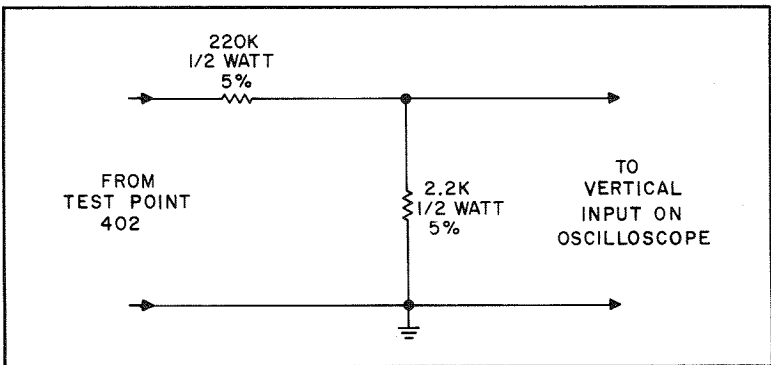
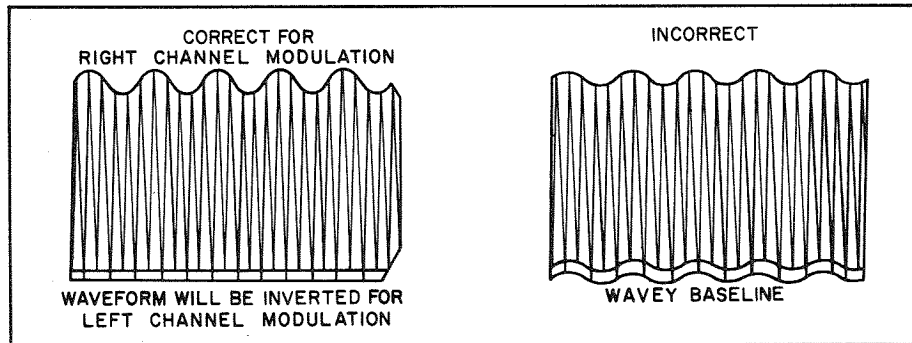

Figure 2. Voltage Divider Probe.
Figure 3. Waveform At Test Point 402.
- (9) Run the dial cord through the slot in the rim of the drive drum and set in the underside of groove 1 (see side view).
- (10) Pull dial cord taut and wrap $1\frac{1}{2}$ turns around the fly-wheel shaft.
- (11) Rotate the drive drum to its maximum clockwise position, allowing the dial cord to follow the grooves in the drum (Figure 2). Keep the dial cord taut during this procedure.
- (12) Guide the dial cord over the top of the drive drum and place it in groove 3 (see top view).
- (13) Run the dial cord through the slot in the drive drum and bring it under and around the beveled washer. Pull the dial cord taut until the spring stretches open. Tighten the machine screw to hold the dial cord under the washer.
- (14) Rotate the drive drum to its maximum counterclockwise position (Figure 3).
- (15) Run the loose end of the dial cord out through the slot in the drive drum and place it in groove 3 (see side view). Guide the dial cord around pulleys A and B.
(3) Adjust generator output voltage and frequency to observe IF response curve. Use as low a generator output as possible.
(4) Turn top core of Z302 on IF amplifier board fully out.
(5) Align top and bottom cores of Z303, bottom core of Z302, and top and bottom cores of Z301 on IF amplifier board, and core of L505 on front end for maximum gain and symmetry (see Figure 3). Repeat alignment until maximum gain and symmetry are obtained.
(6) Align top core of Z302 on IF amplifier board for maximum gain and symmetry (see Figure 2). Realign slightly top and bottom cores of Z302 for maximum gain and symmetry.
(7) Connect DC VTVM, set to 1.5-volt range, through a 100K to Test Point 302. Set generator to 10.7 MHz (Mc) with no sweep.
(8) Align top core of Z304 on IF amplifier board for reading on DC VTVM of 0 ± 0.2 VDC.
(9) Connect scope to LEFT or RIGHT CHANNEL RCDR HIGH jack. Set generator for sweep.
(1) Connect 455-kHz (kc) sweep generator to pin 5J on the AM RF board. Connect scope's vertical input through 1K ohm resistor to Test Point 603 on the 455-kHz (kc) IF amplifier board. Connect a 0.005- μ F capacitor between the scope input and pin 6H on IF board.
(2) Adjust generator output voltage and frequency to observe IF response curve. Use as low a generator output as possible.
(3) Align top and bottom cores of Z601 and Z602 on 455-kHz (kc) IF amplifier board and top and bottom cores of Z503 of AM RF board for maximum gain and symmetry (similar to Figure 3).
(4) Detune top core of Z602 2 turns counterclockwise.
(5) Realign top and bottom cores of Z503, bottom core of Z601 and top and bottom cores of Z602 for maximum gain at center frequency.
(6) Align top core of Z601 for maximum symmetry. Readjust slightly top and bottom cores of Z601 for maximum symmetry.
(7) Repeat alignment several times until accurate dial calibration and maximum gain are obtained. Keep the generator output as low as possible during all adjustments.
(8) After alignment, disconnect 0.005- μ F capacitor.